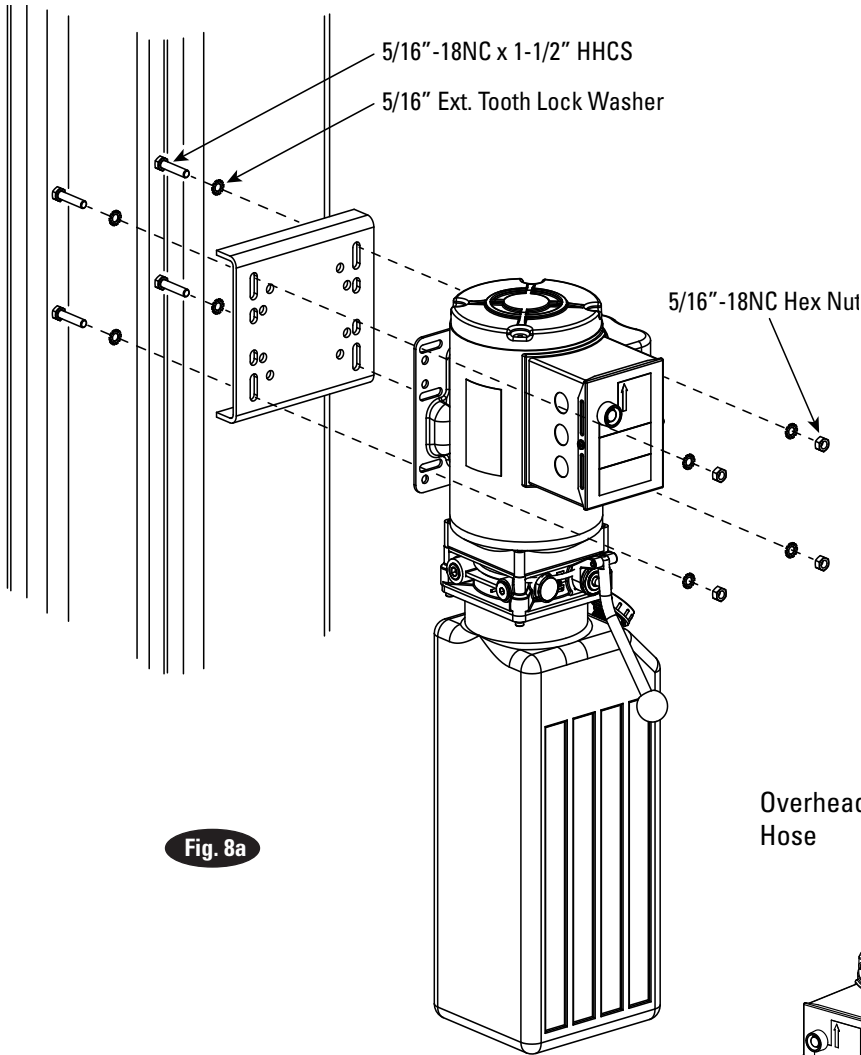
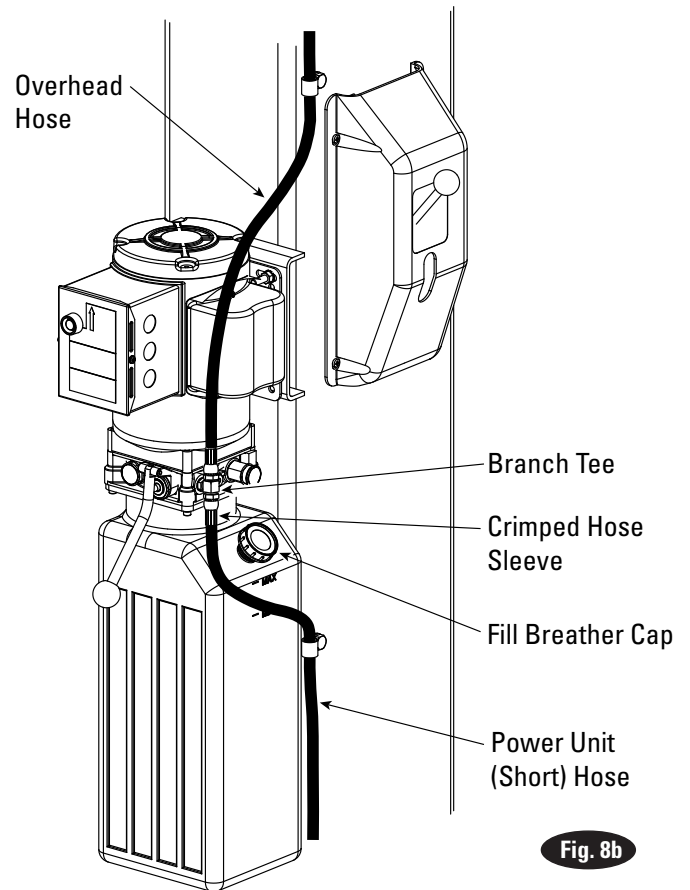
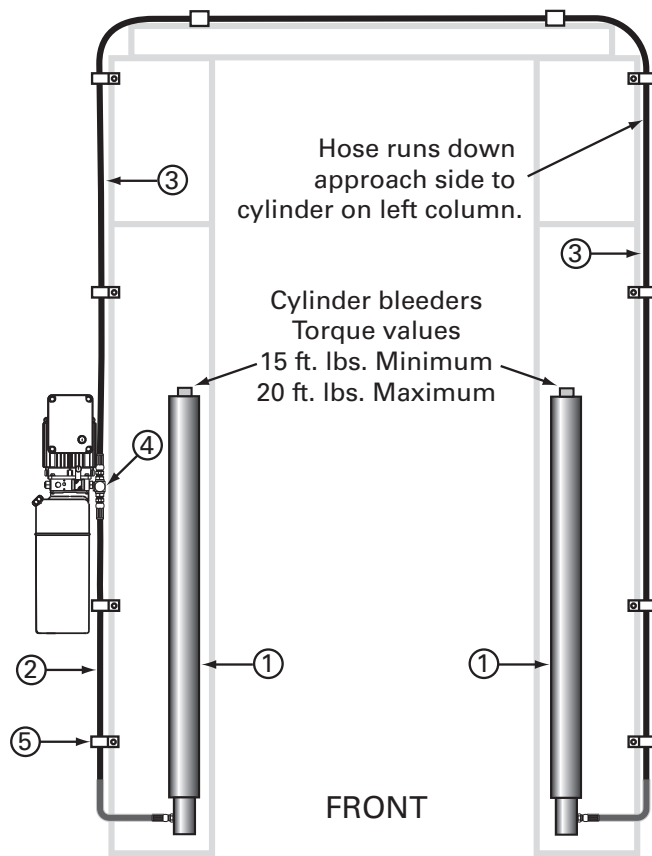
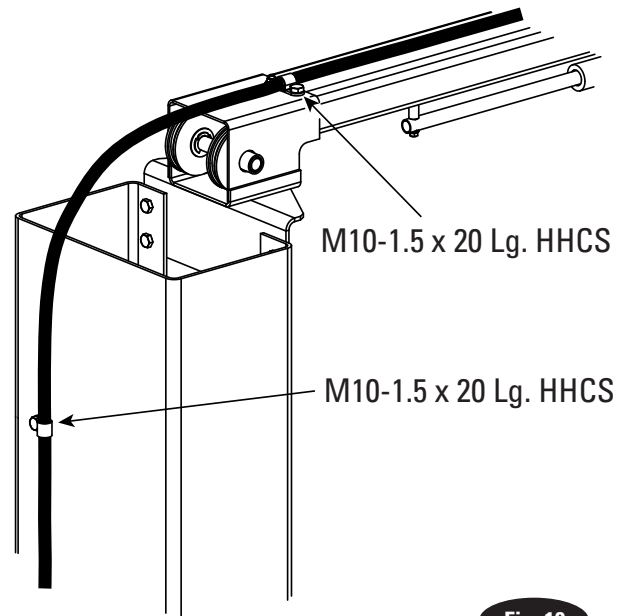

Fig. 8a
Fig. 8b
Fig. 9
Fig. 10
9. Power Unit: Put the (4) 5/16" -18NC x 1-1/2" HHCS thru holes in power unit bracket using (4) 5/16" Ext. Tooth Lock Washers. Mount power unit with motor up to column bracket and install (4) 5/16" Ext. Tooth Lock Washers and (4) 5/16" -18NC Hex Nuts, Fig. 8a. Install and hand tighten Branch Tee to pump until O-ring is seated. Continue to tighten the locknut to 10-15 ft-lbs., or until the nut and washer bottom out against the pump manifold, Fig. 8b.
10. Hoses: Clean adapters and hose. Inspect all threads for damage and hose ends to be sure they are crimped, Fig. 8b. Install hose and hose clamps, Fig. 9.
Adapter & Hose Installation (see Fig. 9)
NOTE: Route Power Unit hose outside columns using mounted clips, Fig. 9. Route Overhead Hose on top of column channel on outside of column, Fig. 9. Overhead hose goes over top end of overhead assembly, Fig. 10.